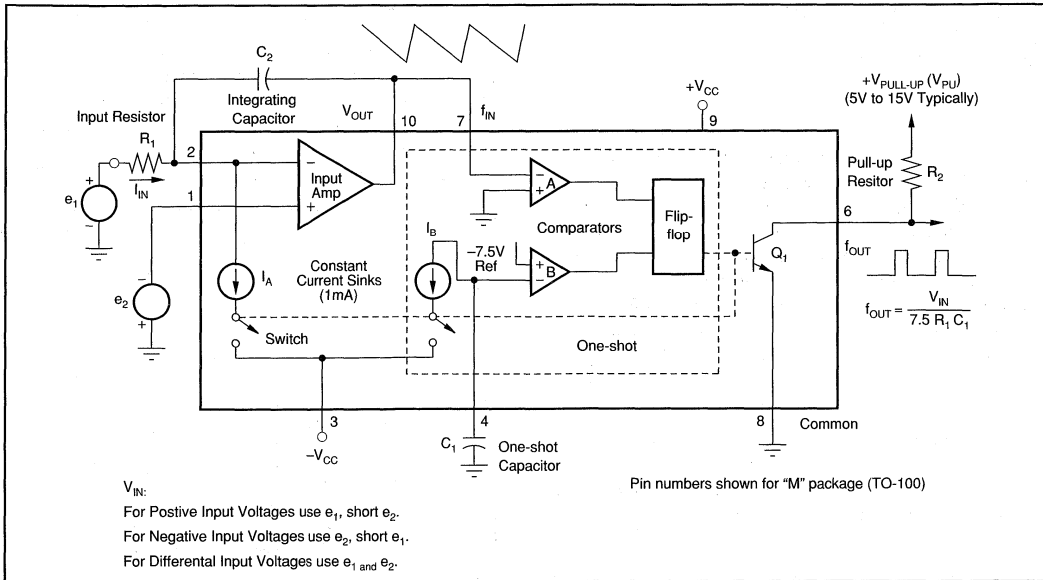
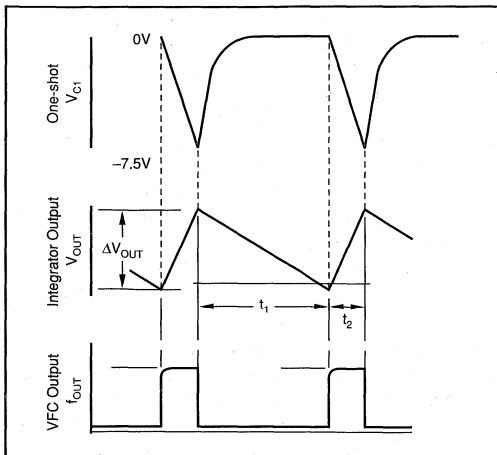

FIGURE 4. Functional Block Diagram of the VFC320.
FIGURE 5. Integrator and VFC Output Timing.
The VFC320 monolithic voltage to-frequency converter provides a digital pulse train output whose repetition rate is directly proportional to the analog input voltage. The circuit shown in Figure 4 is composed of an input amplifier, two comparators and a flip-flop (forming a one-shot), two switched current sinks, and an open collector output transistor stage. Essentially the input amplifier acts as an integrator that produces a two-part ramp. The first part is a function of the input voltage, and the second part is dependent on the input voltage and current sink. When a positive input voltage is applied at V_{IN} , a current will flow through the input resistor, causing the voltage at V_{OUT} to ramp down toward zero, according to $dV/dt = V_{IN}/R_1C_1$. During this time the constant current sink is disabled by the switch. Note, this period is only dependent on V_{IN} and the integrating components.
The transfer function for the VFC320 is derived for the circuit shown in Figure 4. Detailed waveforms are shown in Figure 5.
In general, the design sequence consists of: (1) choosing f_{MAX} , (2) choosing the duty cycle at full scale ($D_{FS} = 0.25$ typically), (3) determining the input resistor, R_1 (Figure 4), (4) calculating the one-shot capacitor, C_1 , (5) selecting the integrator capacitor C_2 , and (6) selecting the output pull-up resistor, R_2 .